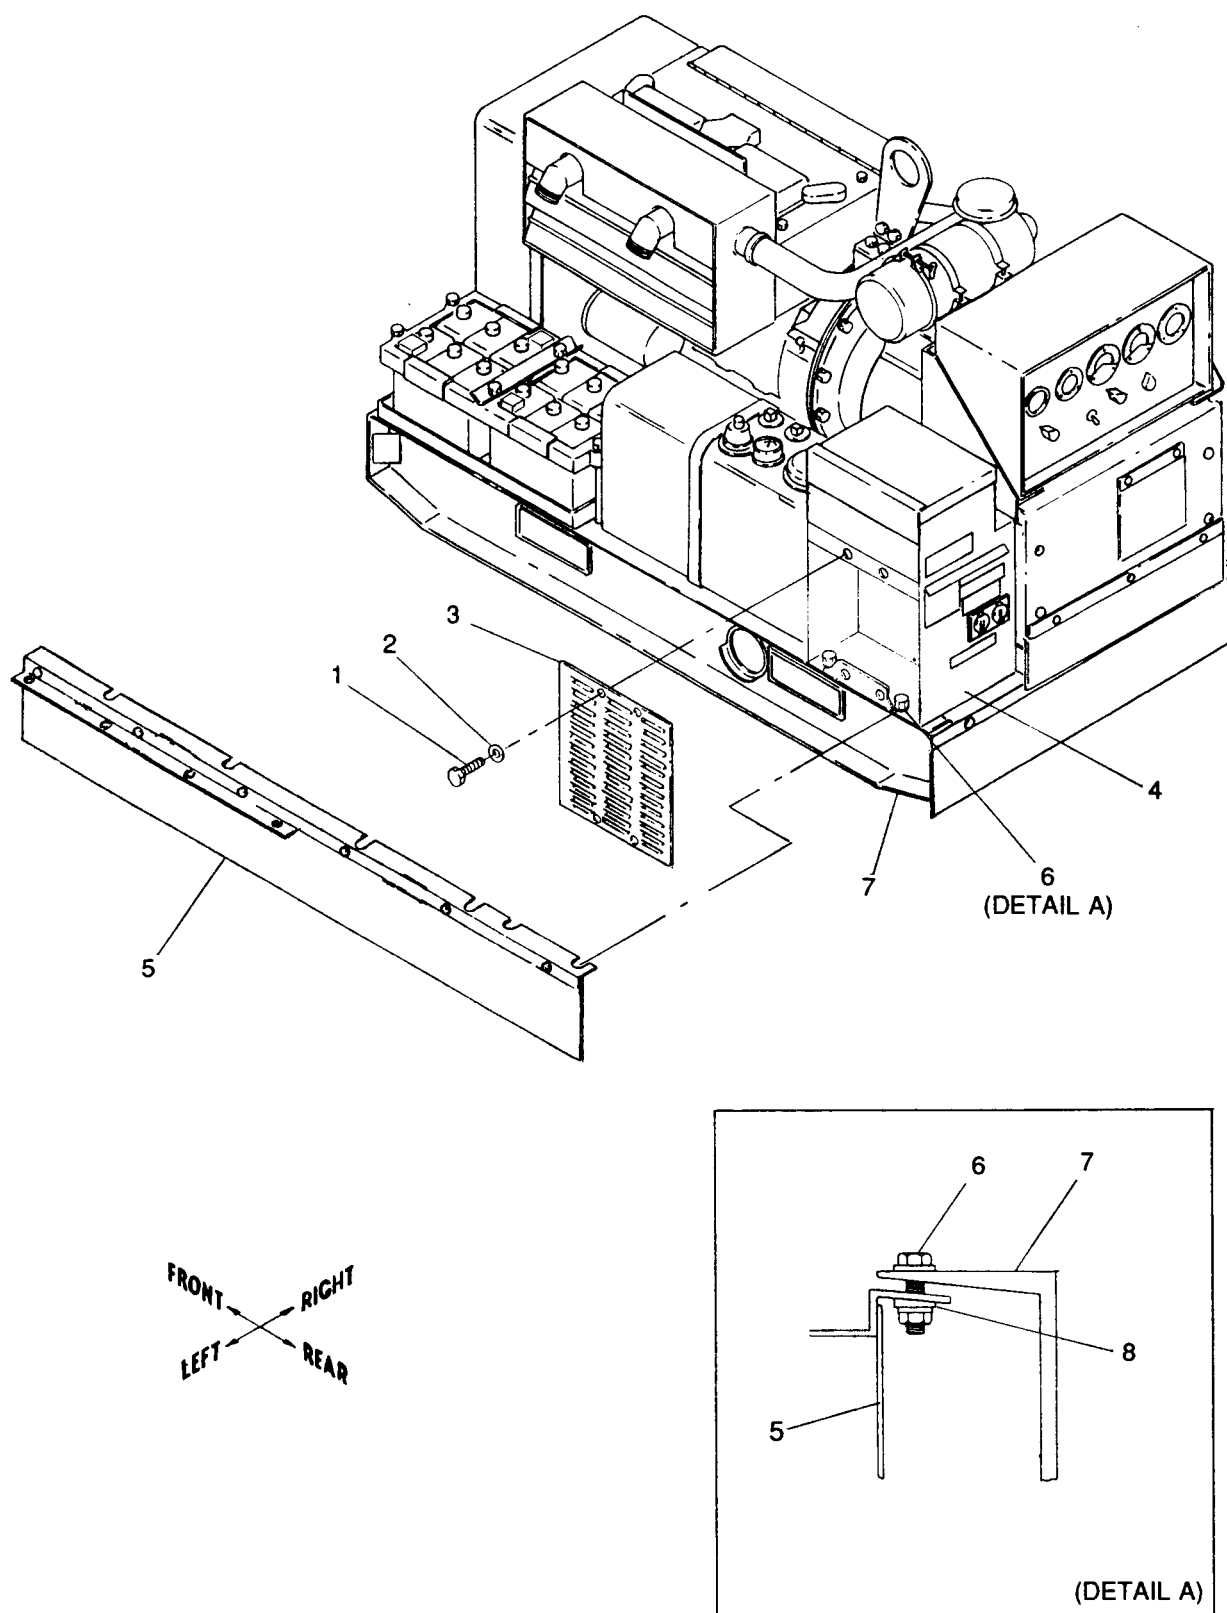

Figure 10-3. Installation of Left Support Assembly
(1) Refer to figure 10-3 to remove four screws (1) and lockwashers (2) securing access plate (3) to AC output control box assembly (4).
(2) Cut a 61 in. length of adhesive backed teflon tape (as listed in Table 10-1, item 2). Apply adhesive backed teflon tape to a clean left support assembly (5) top surface (surface that mounts against underside of support frame). Use hand pressure to remove air bubbles. Clear teflon tape away from screw slots.
(3) Loosen four existing screws (6) and slide left support assembly (5) between skid (7) and bevel washers (8) as shown in figure 10-3, detail A.
(4) Torque four existing screws (6) to 26  $\pm$ 2 ft-lbs dry.
(5) Refer to figure 10-3 to install four screws (1) and lockwashers (2) which secure access plate (3) to AC output control box assembly (4).